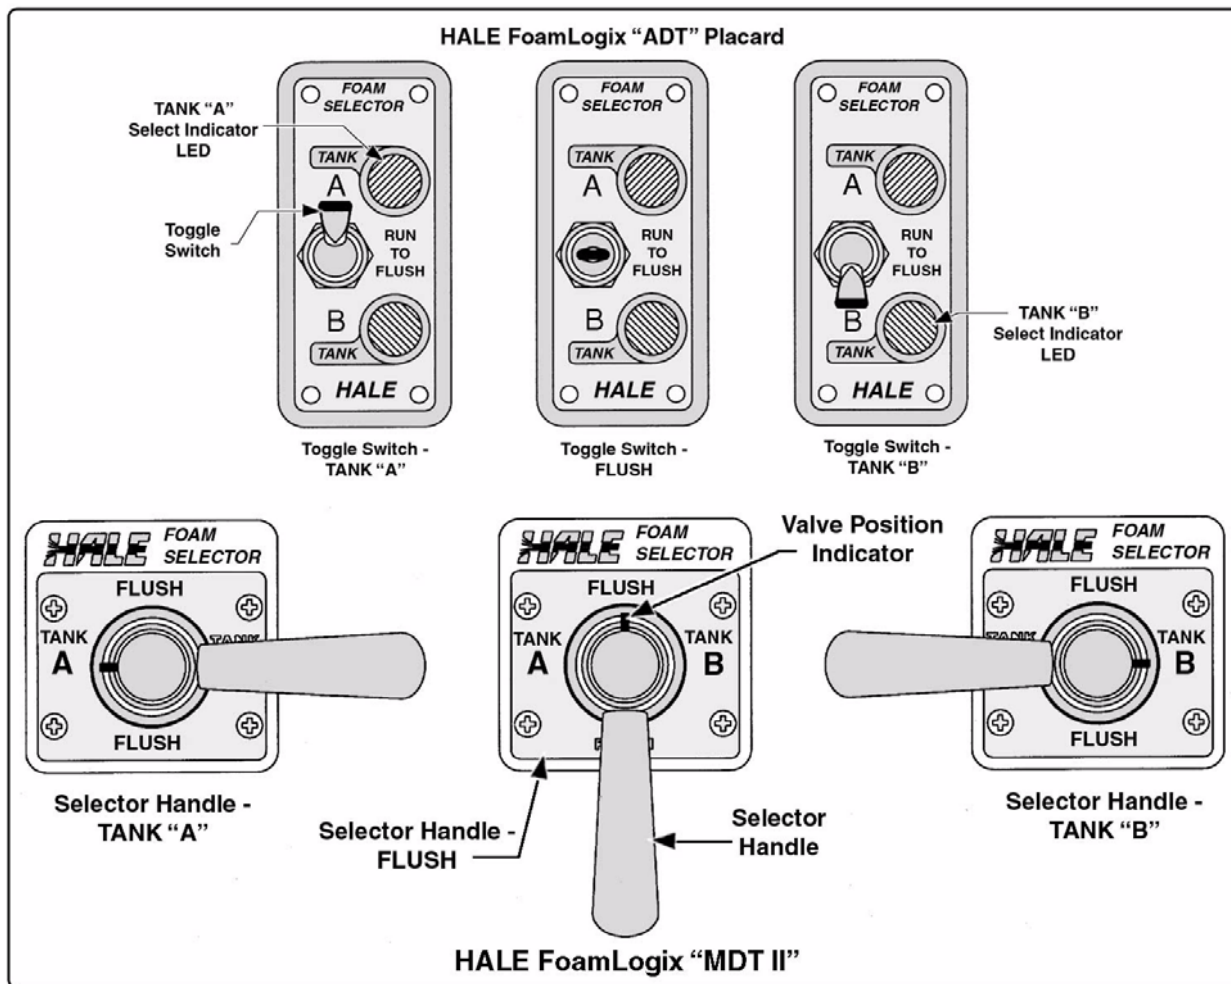
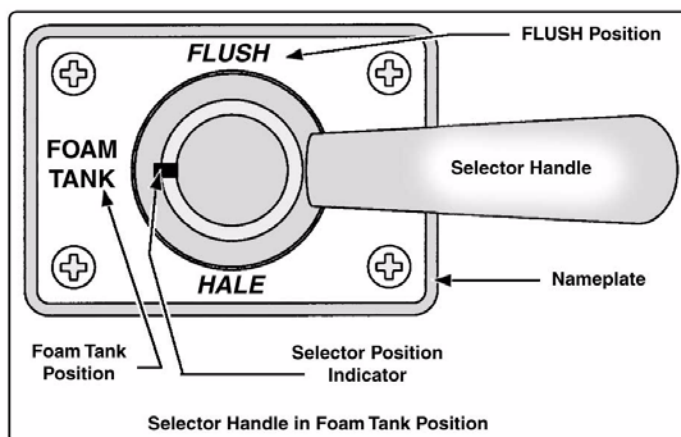

Figure 5-8: Dual Tank Selector Operating Positions
Figure 5-9: Hale MST Selector Operation
Make sure the HALE FoamLogix is operating and foam solution is being discharged. (See Figure 5-8: “Dual Tank Selector Operating Positions,” on page 136.)
3. After completion of Class “B” foam operations, briefly FLUSH the foam pump and return the Hale FoamLogix to the ready condition by returning to the TANK “A” position and flowing a small amount of Class “A” foam concentrate. (See Figure 5-8: “Dual Tank Selector Operating Positions,” on page 136.)
See Figure 5-8: “Dual Tank Selector Operating Positions,” on page 136. Also see Figure 5-9: “Hale MST Selector Operation” on page 138.
3. Place the Hale ADT, MDT II or MST to the **FLUSH** position. (See Figure 5-9: "Hale MST Selector Operation.")